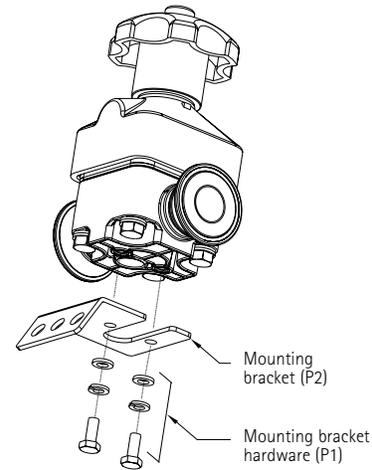

Figure 5
1. Using a $\frac{5}{16}$ " hex wrench for $\frac{1}{2}$ " valves, and a $\frac{7}{16}$ " hex wrench for 1" and 2" valves, and hardware (P1) provided, attach the mounting bracket (P2) to your Cynergy valve (see Figure 5).